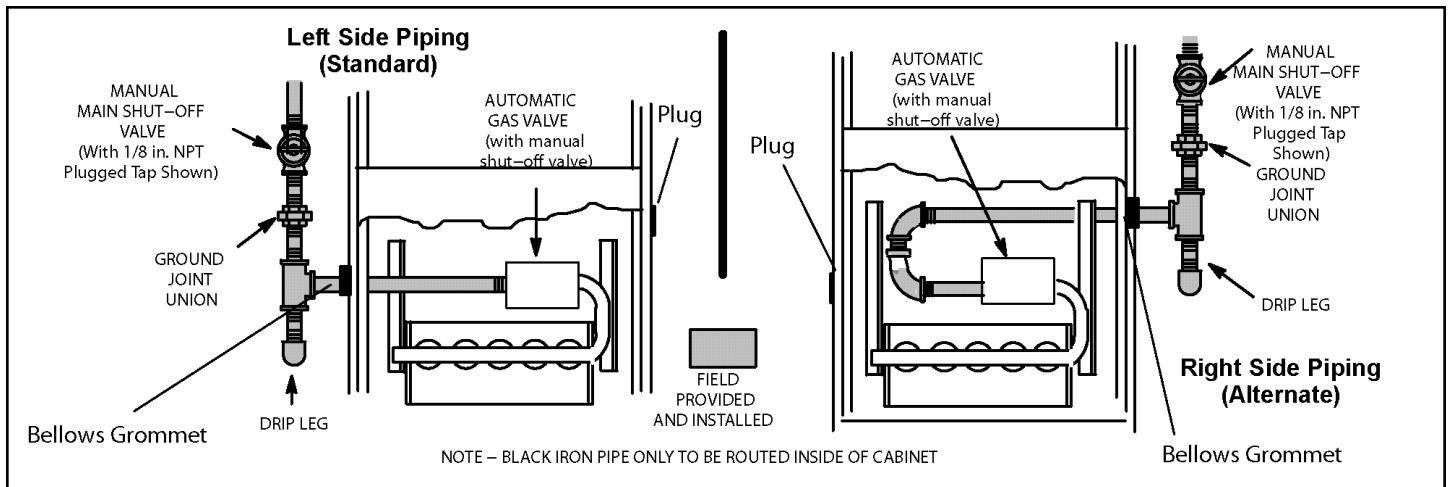

Figure 53.
1. Gas piping may be routed into the unit through either the left or right hand side. Supply piping enters into the gas valve from the side of the valve as shown in Figure 53. Move bellows grommet to side of the cabinet which the gas line enters. Ensure opposite gas line entrance is plugged with supplied plug.
3. Gas piping must not run in or through air ducts, clothes chutes, chimneys or gas vents, dumb waiters or elevator shafts. Center gas line through piping hole. Gas line should not touch side of unit. See Figure 53.